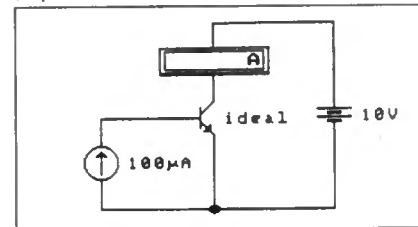

Fig. 4.21 Circuit for Assignment 4.1.2 (transfer characteristic).
7. Connect the circuit shown in Fig. 4.21 using a $100\mu\text{A}$ d.c. current source to supply base current to the transistor.